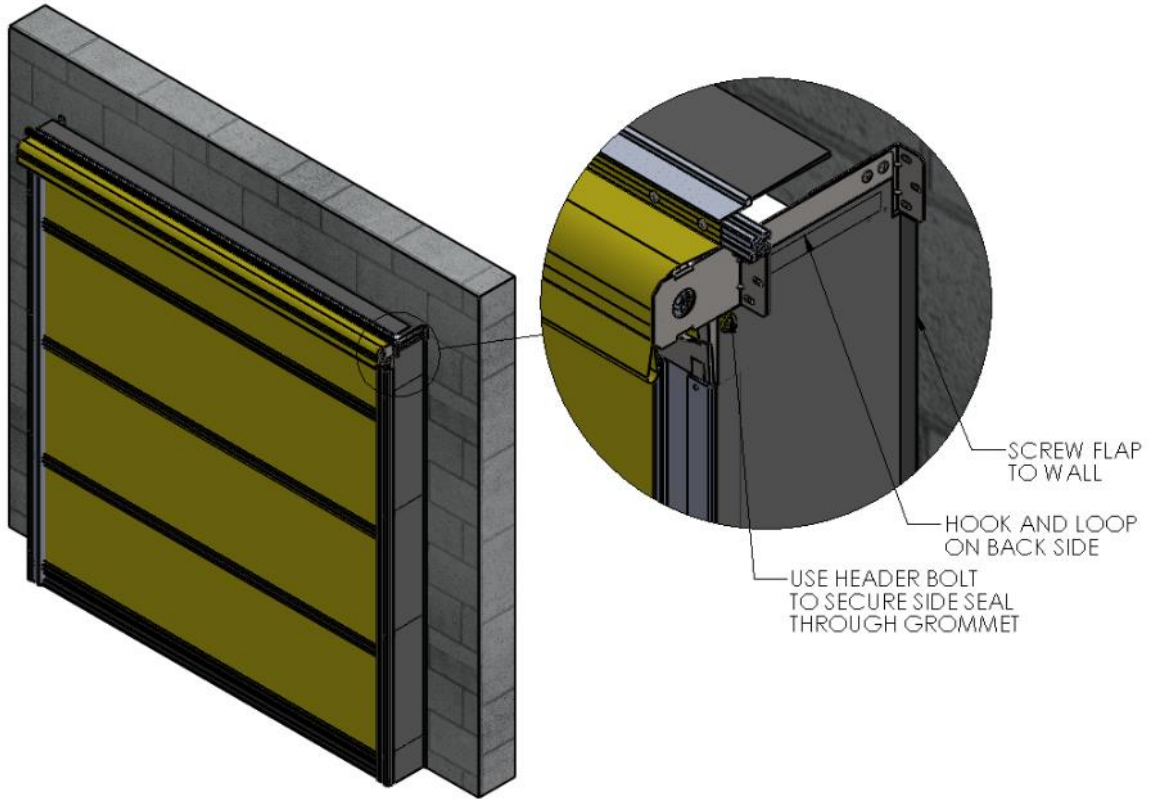

Figure 12 SECURE SIDE SEAL
(Figure 12 SECURE SIDE SEAL)
2. Fold the Side Seal Material to flatten it against the wall, and secure it through the material into the wall with appropriate screws. (Figure 12 SECURE SIDE SEAL)